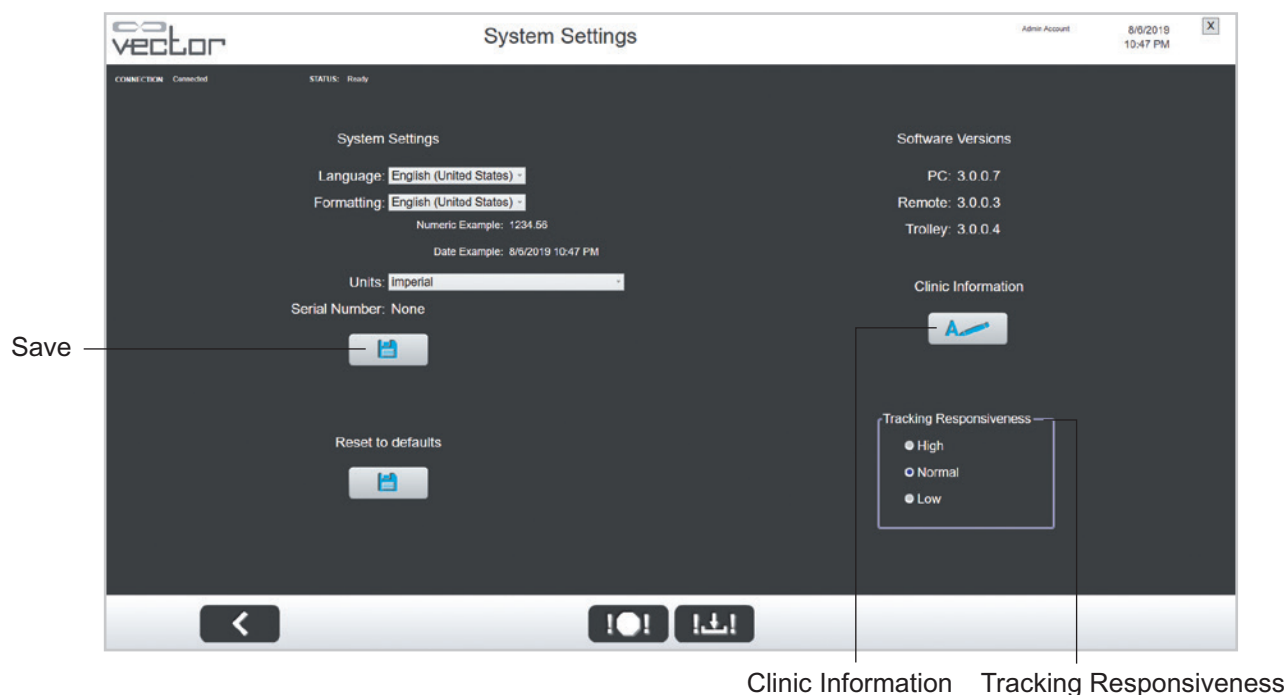

Figure 11-9: System Settings Menu
The System Settings menu is used by the administrator to change the language settings, formatting, measurement units, enter clinic information, and activate software modules. The System Settings menu also lists the version of Vector Elite software that is installed. See Figure 11-9.
2. To change the Tracking Responsiveness, select Low, Normal, or High. See Figure 11-9.
2. The System Settings Menu will open. See Figure 11-9.
1. Press the Clinic Information button. See Figure 11-9.